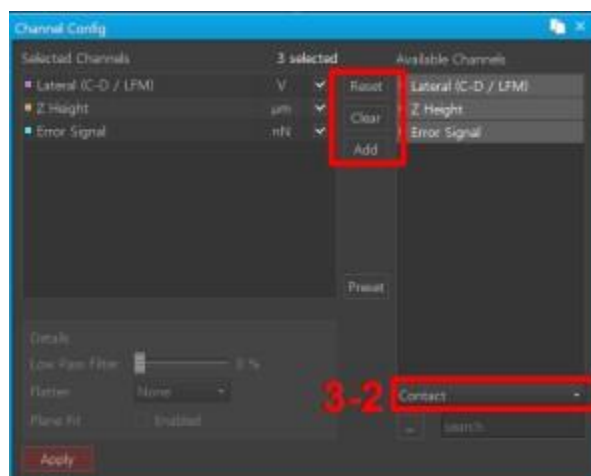

Figure 7: Channel Configuration Window
- Press "Add" to add the available channels on the right side to the selected channels on the left side. (See **Figure 7**)